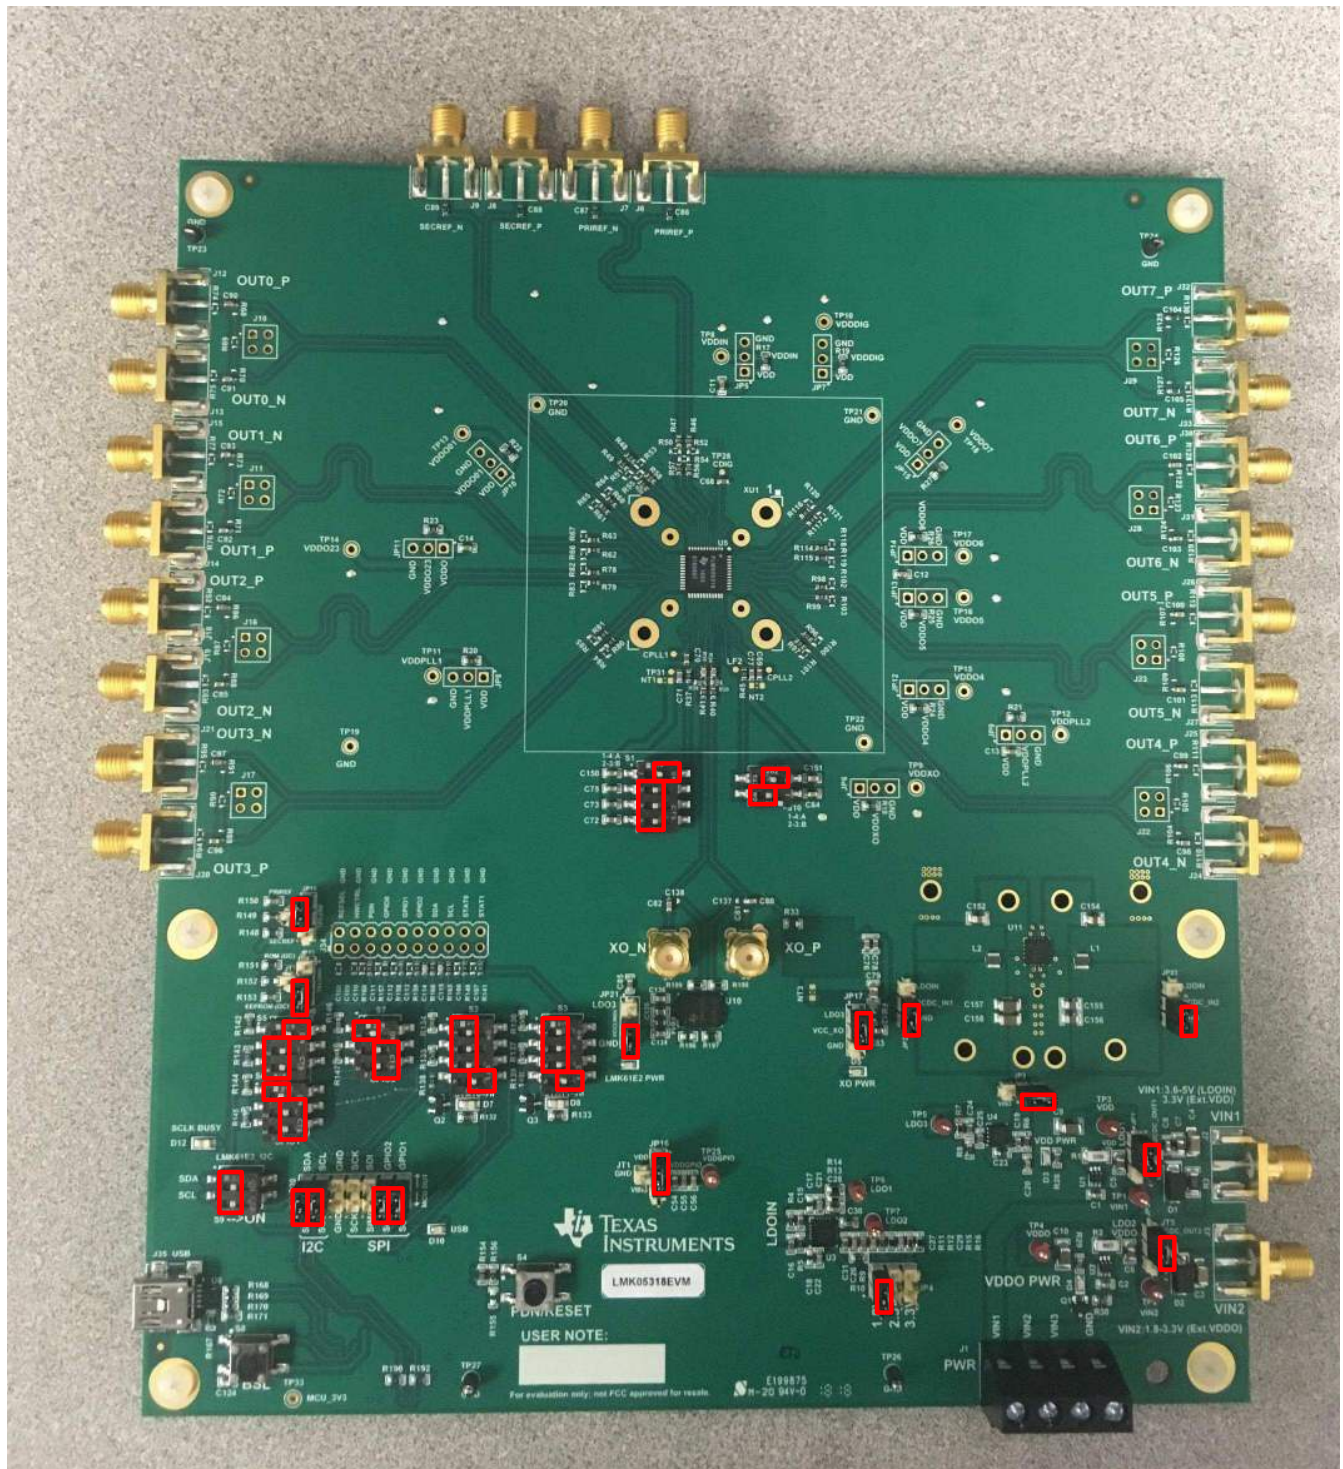

Figure 1. LMK05318EVM With Default Jumper and DIP Switch Settings
1. Verify the EVM default jumper and DIP switch settings shown in Figure 1 and Table 1: